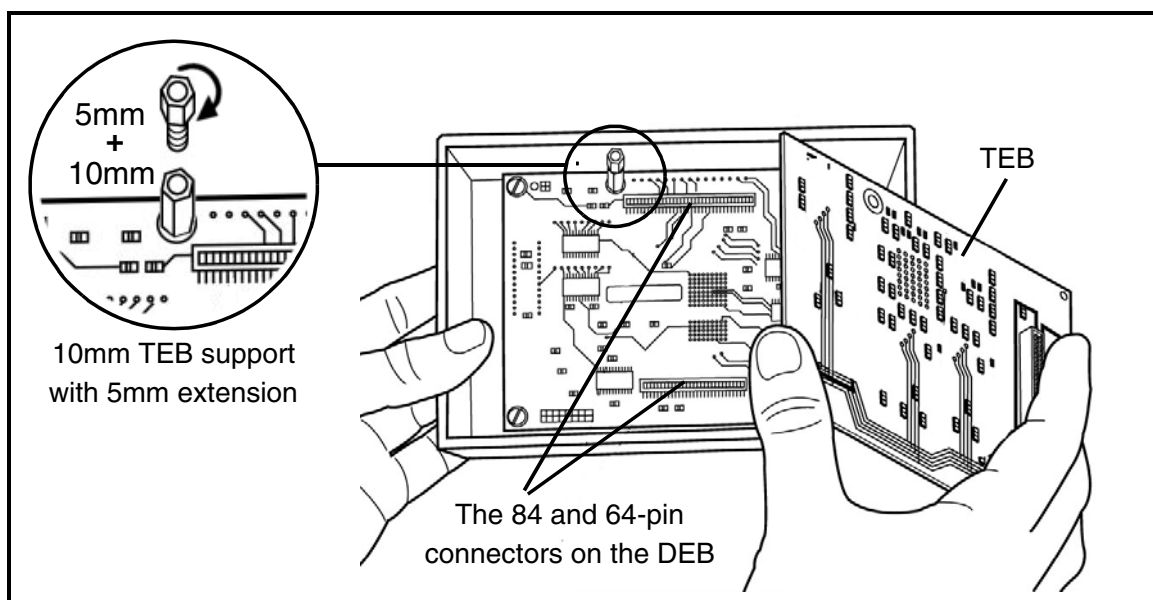

Figure 12: DEB and TEB connectors
The board under the TEB – the Dedicated Emulation Board (DEB), should now be visible (see Figure 12).
- 4 Identify the top and bottom faces of the TEB you wish to install. The bottom face is distinguished by the presence of two or more flex cable connectors placed side by side. The top face is distinguishable by two DEB connectors along the long edges of the TEB. There is one 84-pin connector and one 64-pin connector, which match the DEB connectors shown in Figure 12.
- 5 Install the replacement TEB in the EMU3 probe by inserting the male 84-pin/64-pin connectors into the TEB's female 84-pin/64-pin connectors (refer to Figure 12). Because the connectors are asymmetric, there is only one possible connection scheme.
Note: *For some TEBs, the microcontroller is mounted on a support and not soldered directly to the board. In this case the TEB's 84-pin and 64-pin connectors have an additional height of 5mm to allow enough room for the microcontroller. To compensate you will need to add a 5mm extension to the 10mm support on the DEB, as shown in Figure 12 on page 23. The 5mm extensions are provided with your TEB and screw into the 10mm supports. However, remember that if you install a TEB with surface mounted microcontroller later, you will have to remove the 5mm extensions.*